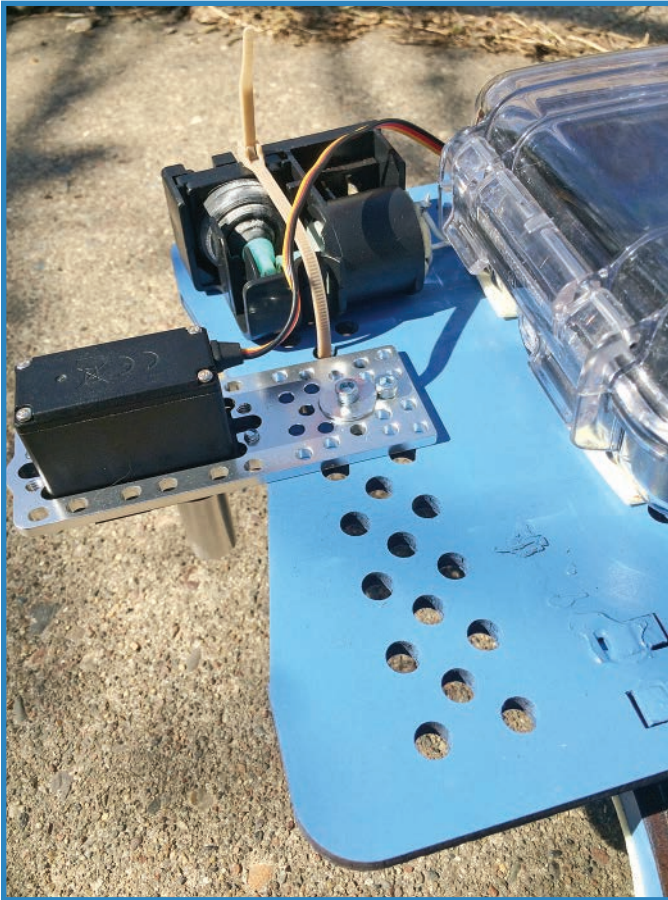

FIGURE 11.18 Attach the servo to the chassis.
6. Attach the servo to the chassis with the help of the servo plate. It should look like Figure 11.18.